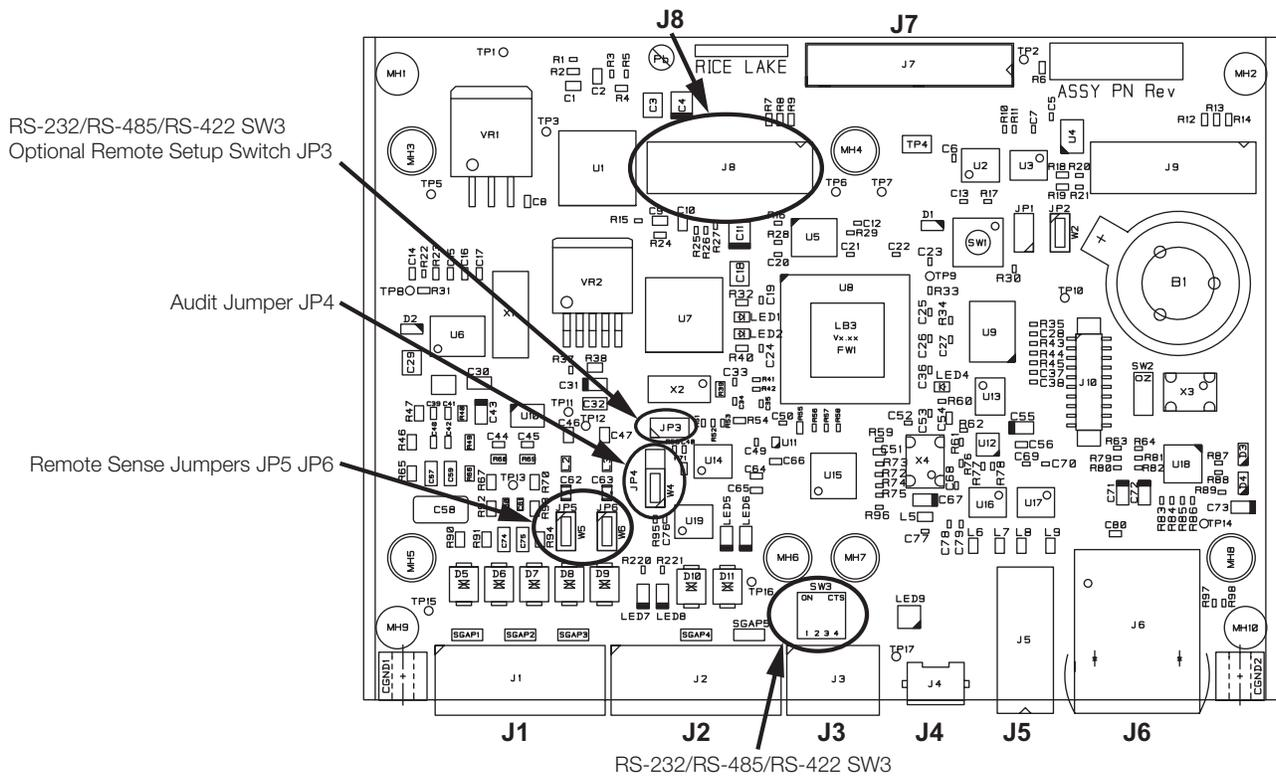

Figure 2-19. 880 CPU Board
**Note** For 4-wire installation, leave jumpers JP5 and JP6 on (see Figure 2-19).
**Note** For RS-232, all four switches on SW3 (see Figure 2-19) must be in the OFF position.
On the top of the CPU board is a 3-pin Jumper (JP4 - see Figure 2-19) that enables or disables this feature.